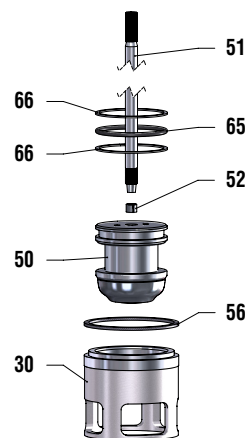

Figure 10: Pressure balanced design
29. Reassemble the pressure balanced plug with new backup rings (66) and a new O-ring (65) (See Figure 10).
30. Install a new profile ring (55) and seat ring (20).
31. Lower the sleeve (30) into the body and place it on top of the seat ring (20).
32. Lower the pre-assembled plug assembly (50) into the sleeve (30) with the plug head touching the seat ring.
33. Install the new seat retainer gasket (56) and the new bonnet gasket (58).
34. Lower the bonnet (40) onto the stem (51) of the plug assembly (50) in the body of the valve.